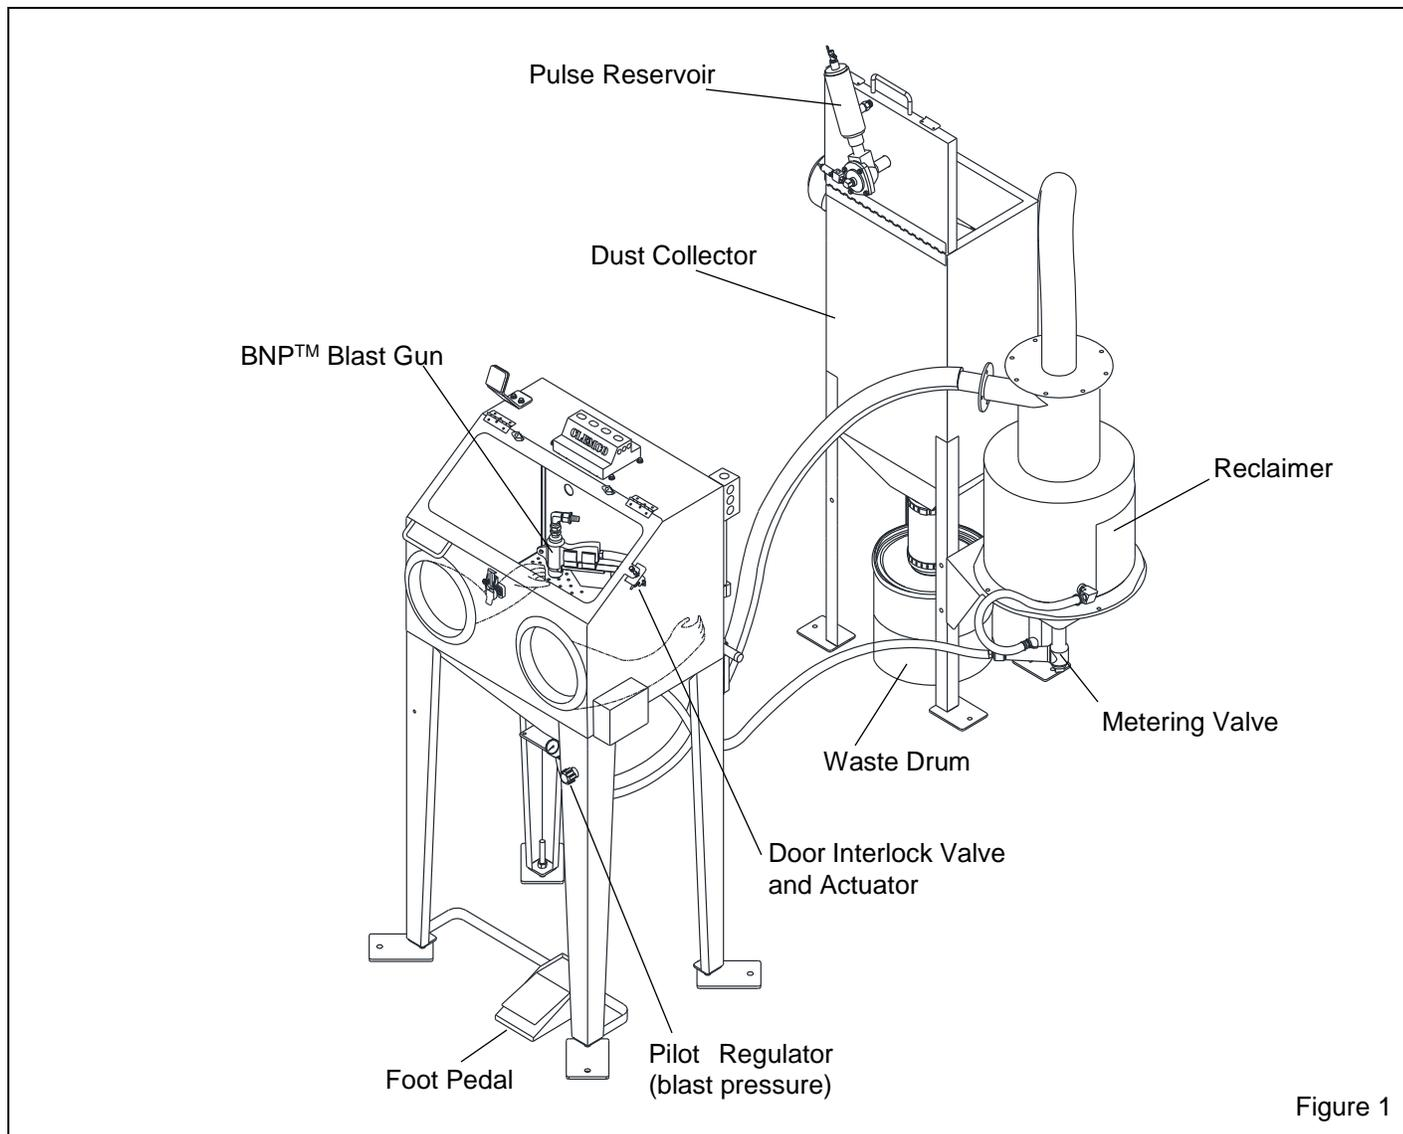

Figure 1
**1.4.2** Refer to Figure 1 for general arrangement of the cabinet, dust collector, and reclaimer.